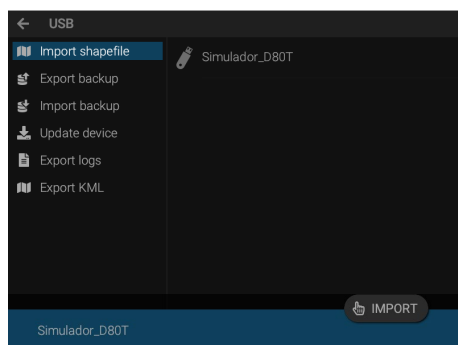
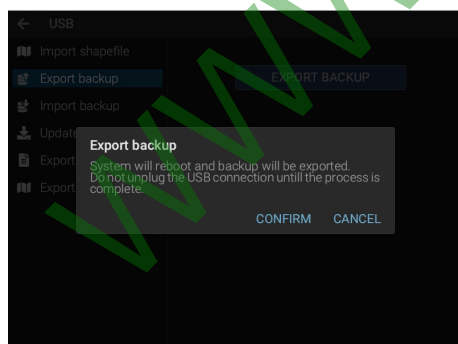

Fig. 99
Fig. 100
- Select the map (Fig. 99) and press **IMPORT**. The monitor requires to confirm the import.
Press **Export backup** (Fig. 99) and **CONFIRM** (Fig. 100):